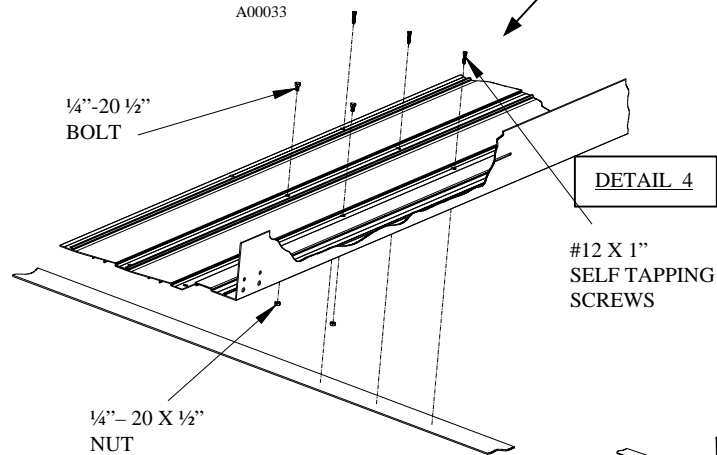

FIGURE 4
Step 5: Bolt together the tie straps across the span of the pool as shown in Figure 4. Once both sides of your mid-section is assembled, verify that your pool is squared properly by measuring the diagonal distance from the two opposite corners of the bottom rail.